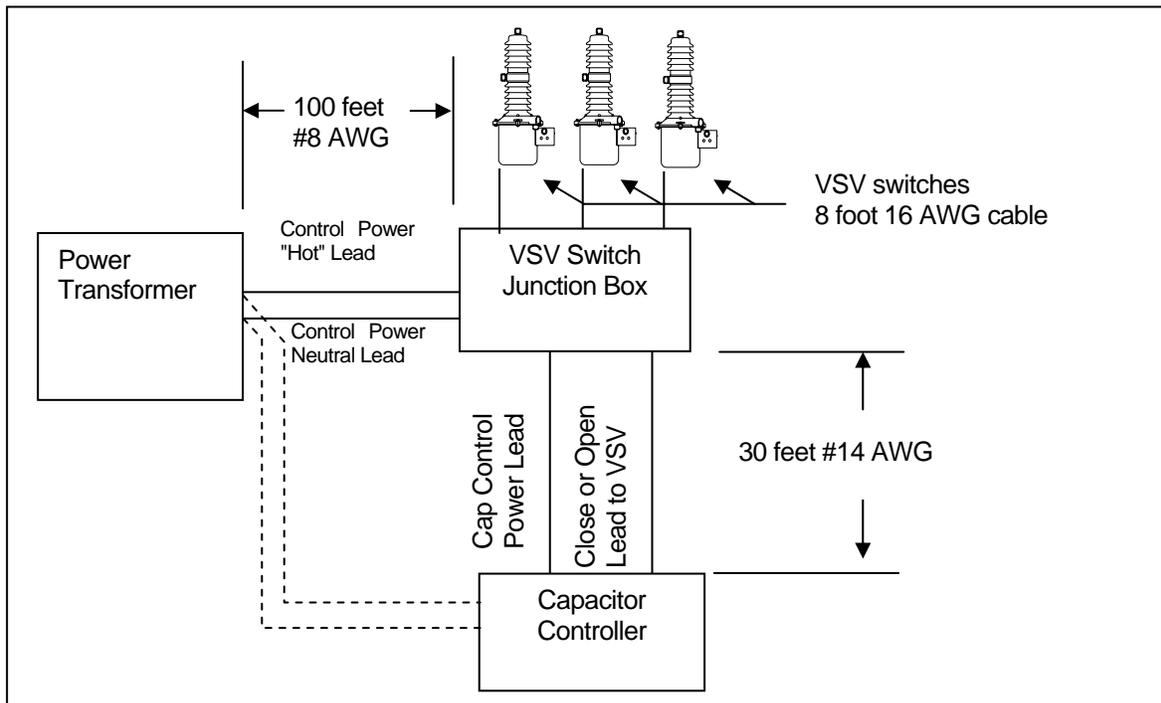

Figure 2: VSV LE Example Installation
- 1.) In Figure 2 the power transformer is 100 feet from the junction box or the capacitor controller. Since #8 AWG is run between the transformer and the junction box or the controller there is a total of 200 feet (hot and neutral) of #8 AWG wire. Using Table 1, this run has a resistance of .1256 ohms and a voltage drop of 4.52 volts ($36 \times .1256$).
- 1.) In Figure 2 the power transformer is 100 feet from the junction box or the capacitor controller. Since #4 AWG is run between the transformer and the junction box or the controller there is a total of 200 feet (hot and neutral) of #4 AWG wire. Using Table 3, this run has a resistance of .0497 ohms and a voltage drop of 1.79 volts (36 X .0497).